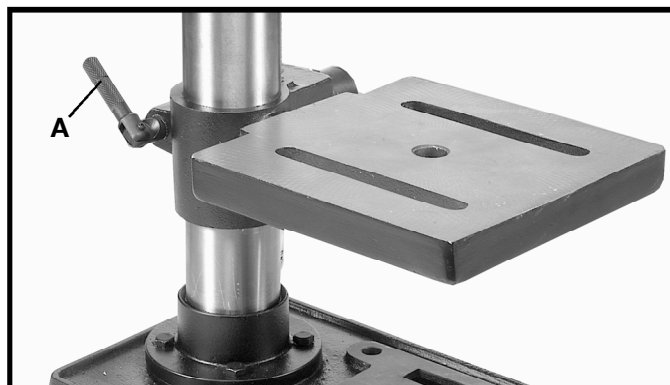
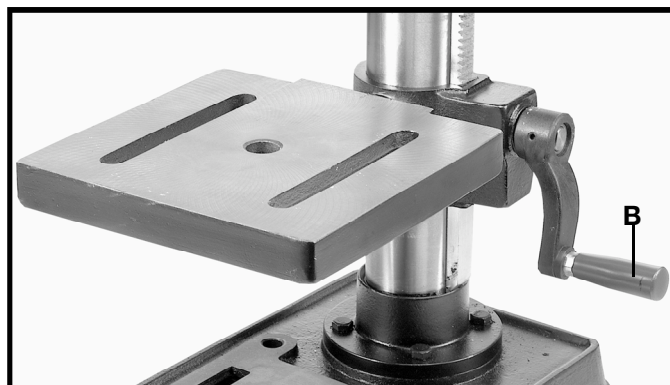

Fig. 20
Fig. 21
1. The table can be raised or lowered on the drill press column by loosening the table clamp (A) Fig. 20, and turning the table raising and lowering handle (B) Fig. 21. After the table is at the desired height, tighten clamp (A) Fig. 20. **NOTE:** Final positioning of the drill press table should always be from the bottom to the up position.
2. The table can be rotated 360 degrees on the column by loosening clamp (A) Fig. 20, rotate table to desired position and tighten clamp (A).